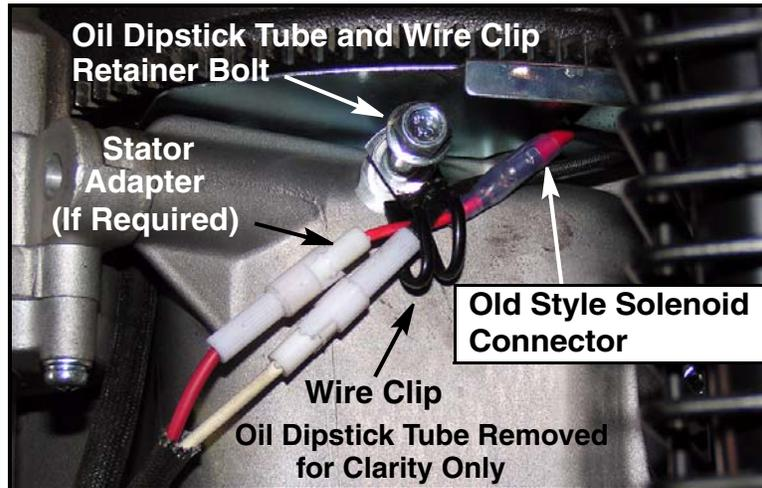

**FIGURE 8**
**PURPOSE:** The mating connector of the supplied replacement stator for the fuel shut-off solenoid lead has been updated from the early production (old) stators, see Figure 1 “STATOR’S MATING SOLENOID CONNECTOR” and Page 3, Figure 8 inset. Therefore, the fuel shut-off solenoid existing on the engine (early or late production version) will dictate when to use the supplied adapter. This supplement sheet defines the two stator assembly replacement and existing fuel shut-off solenoid scenarios and instructions for the adapter supplied with the new stator assembly.
**IMPORTANT - Before removing the old stator, make note, for later reassembly, how the stator harness is routed under the shield then down to the fuel shut-off solenoid lead, ignition module lead, voltage regulator and engine connector. See Figure 8.**
15. Carefully, disconnect the stator harness from the fuel shut-off solenoid lead, ignition module lead, voltage regulator and engine connector. See Figure 8. Discard the old stator.
16. Route the new stator harness as shown in Figure 8. Connect the stator harness to the regulator, to the engine connector and ignition module lead.